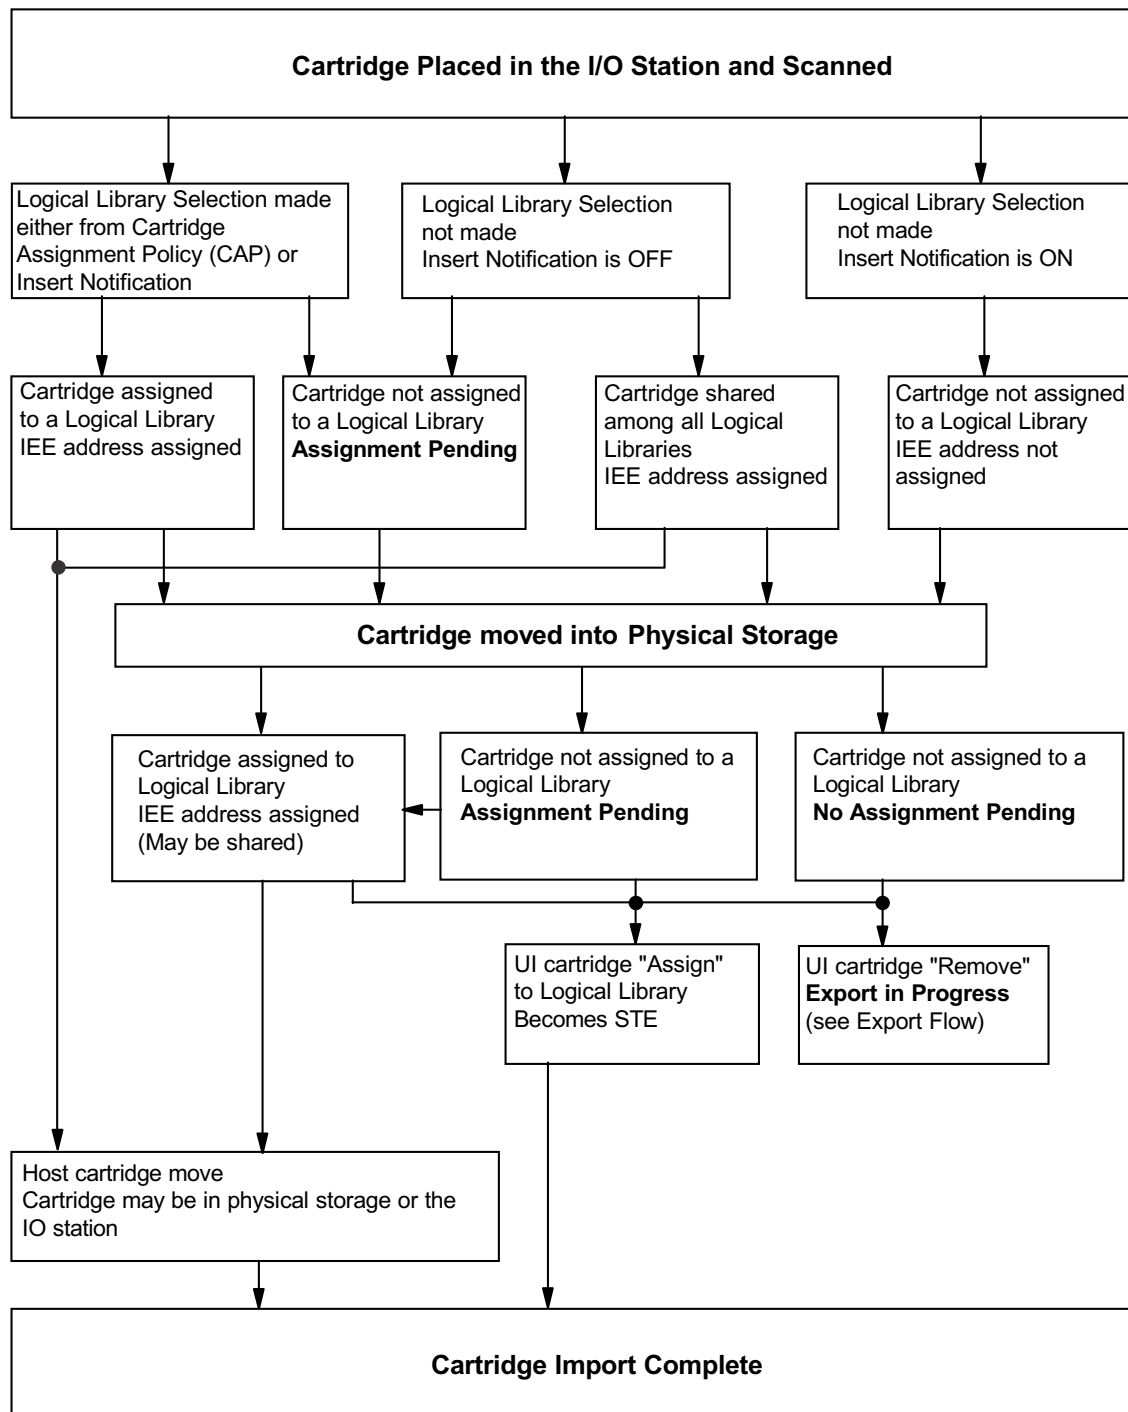

Figure 27. Scenarios for importing cartridges into the TS3500 Tape Library when virtual I/O slots are enabled
2. After you have seated the cartridges, the library will automatically move them into storage slots. How each cartridge is assigned to a logical library varies, depending on whether the cartridge assignment policy and insert notification features are set. For additional details, see Figure 27 on page 79.
- See Figure 27 on page 79, then follow the procedure in “Assigning cartridges to a logical library” on page 112.